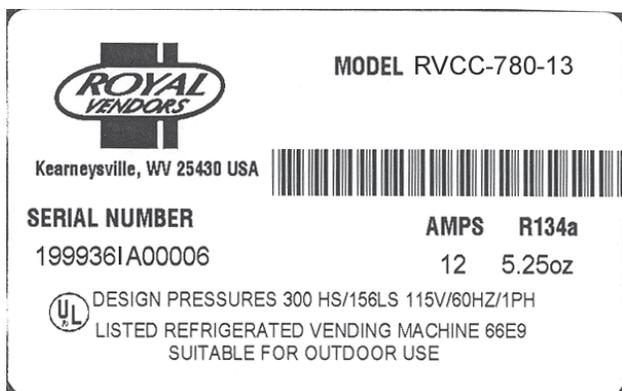

Figure 1.2
**VENDER SERIAL PLATE** - The vender’s main serial plate (shown in figure 1.2) is located on the exterior left side of the vender’s main door and has the following information:
The refrigeration serial plate is located in the bottom of the vender’s cabinet in front of the condenser coil and is mounted to the refrigeration unit “kick plate”. It looks similar to the serial plate shown in figure 1.2 with the exception that the model number specified is the refrigeration unit model. There is currently one model in use: